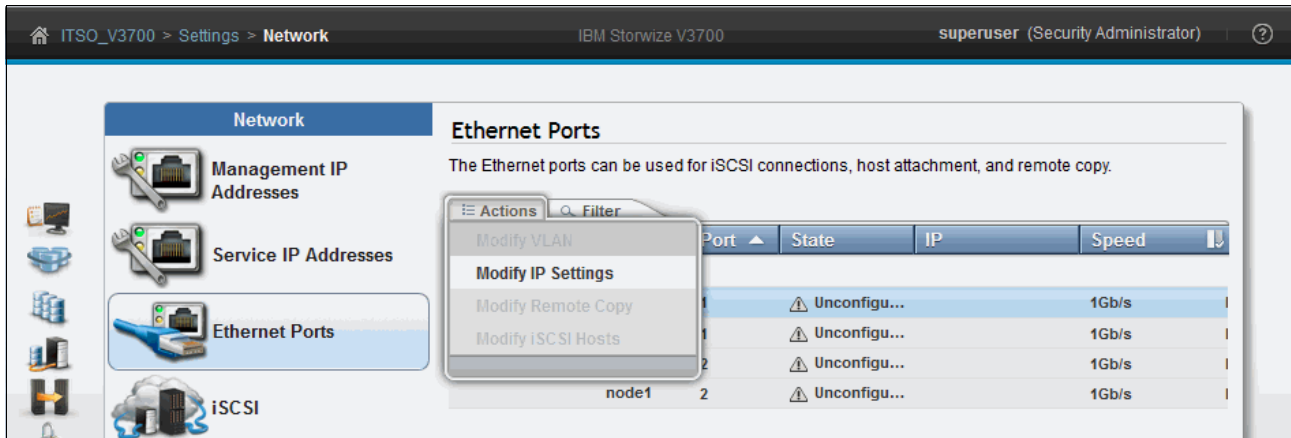

Figure 3-104 Ethernet Ports pane
2. Figure 3-104 shows the Ethernet Ports pane and associated Actions menu. Click **Actions** → **Modify IP Settings** to modify the port settings.